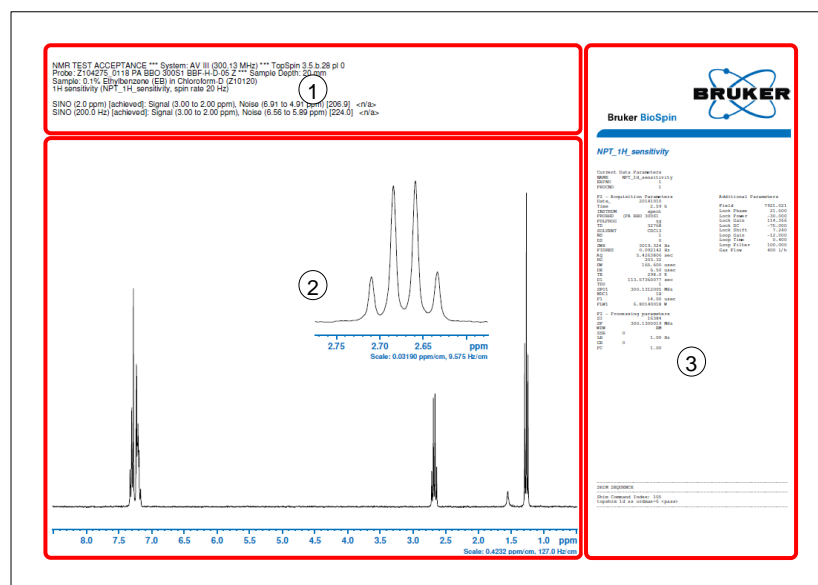

Figure 3-2: Single spectrum PDF
The single spectra PDF shows the resulting spectrum (Figure 3-2 (2)). Depending on the experiment also an expansion, multiple spectra or plots are provided. The title of the single spectrum PDF (Figure 3-2 (1)) provides the results of the acquired experiment including the comparison to specification values if available (see chapter 5.4.1 Inspection Lot Tab). The title also includes information about the used NMR system, the *TopSpin* version, the probe and the sample the experiment was acquired on. Further information e.g. about the sample depth or rotation status may also be provided. Right of the spectrum (Figure 3-2 (3)) acquisition, processing and additional parameters are shown and information about the applied shim sequence is provided.